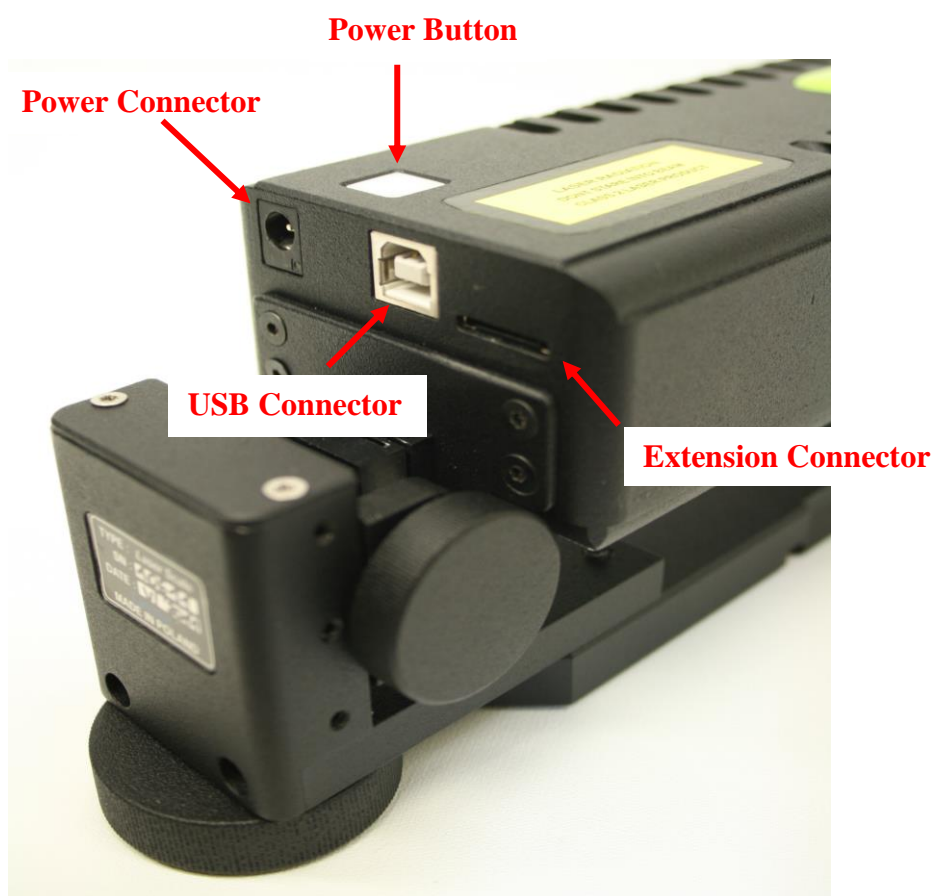
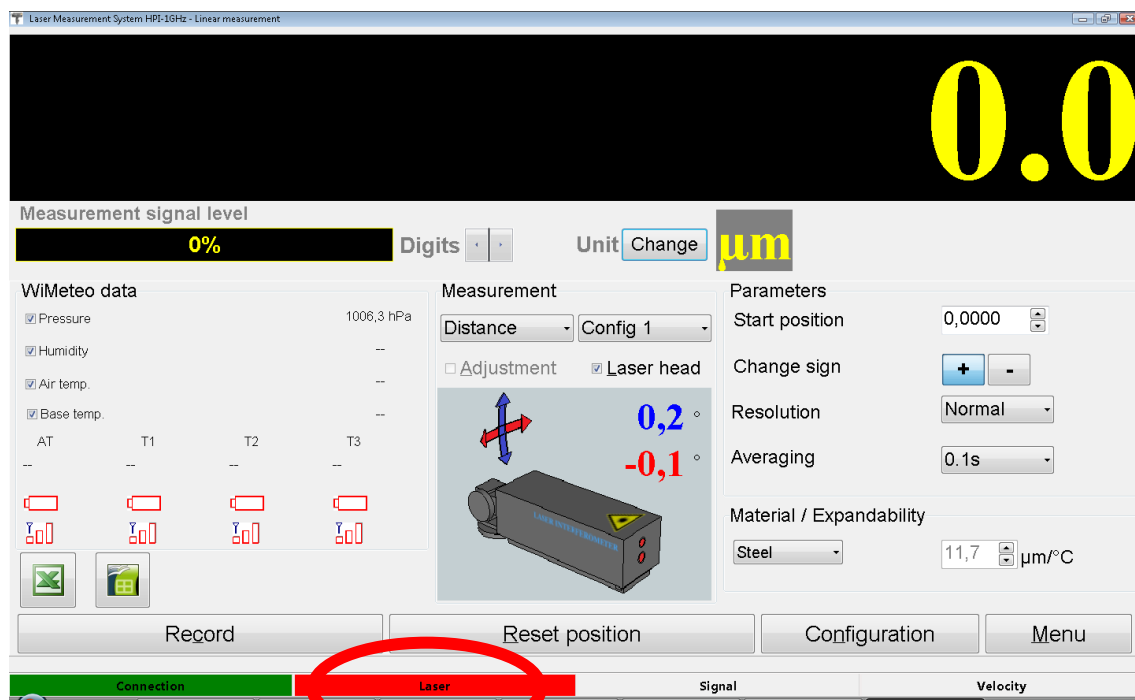

FIG.3.19. CONNECTIONS OF THE HPI-3D.
FIG.3.20. POWER SWITCH OF THE HPI-3D
If the USB connection is used then the USB cable (10) should be connected to the male socket on the back panel of the Laser Head (fig. 3.19). The second end of the cable should be plugged into the USB socket of a PC computer. For the Bluetooth connection only power connection is necessary.
The HPI-3D has only one soft-switch on the top of the laser head. Starting the laser is possible by holding the *Power Button* for 3 seconds (see figure 3.19) or from the LSP software by clicking on the bottom bar of the screen in “Laser” text (see fig. 3.20).